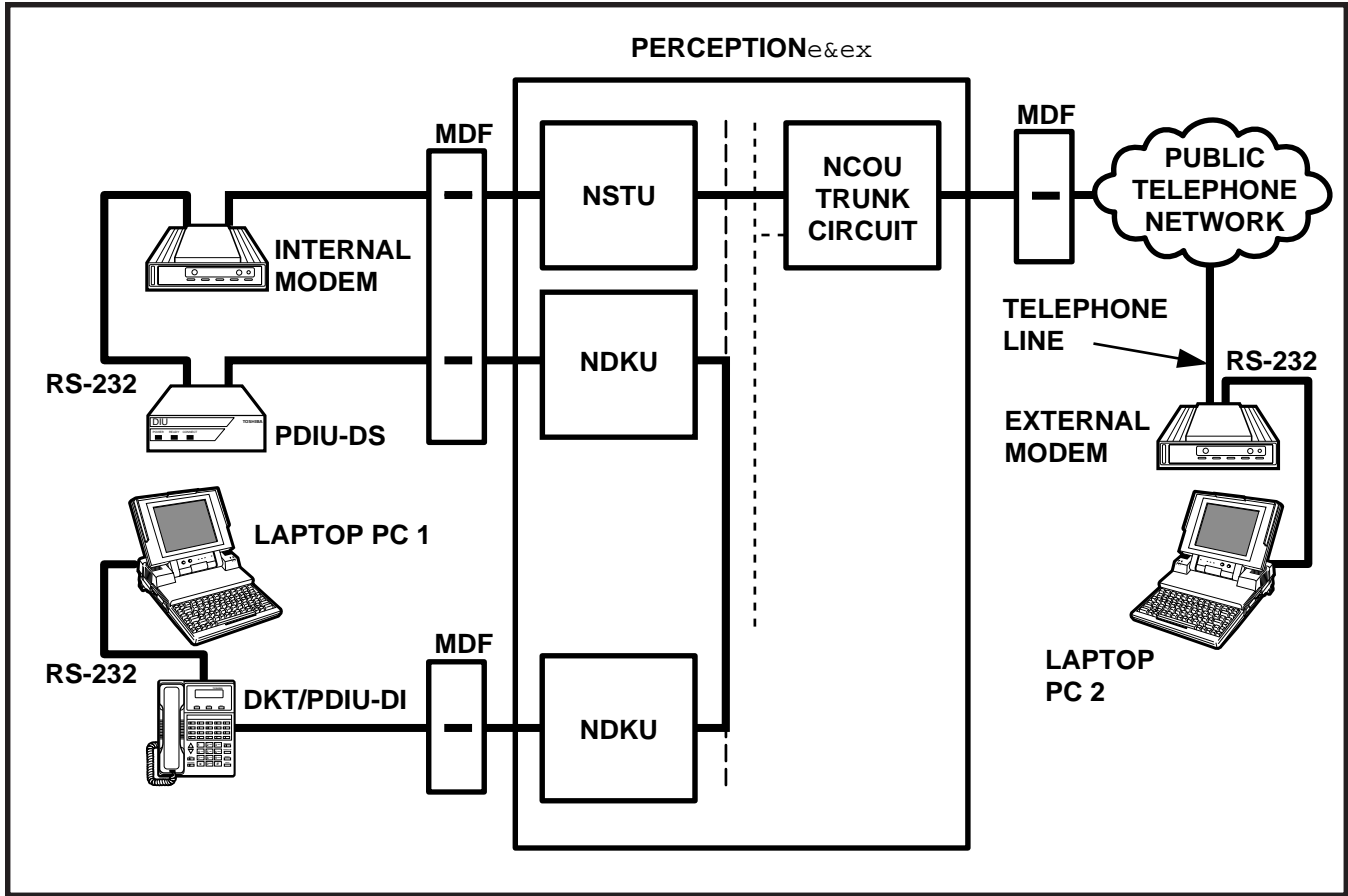

FIGURE 4-65—EXTERNAL PC TO INTERNAL PC TEST CALL USING AT COMMANDS
- Figure 4-65—External PC to Internal PC Test
1. Modem receives data on pin 2 (TD) and transmits data on pin 3 (RD).
2. The PDIU-DS must be in the connect to modem mode (P1 ~ P9 strapped B-C) so that it transmits data on pin 2 (TD) and receives data on pin 3 (RD).